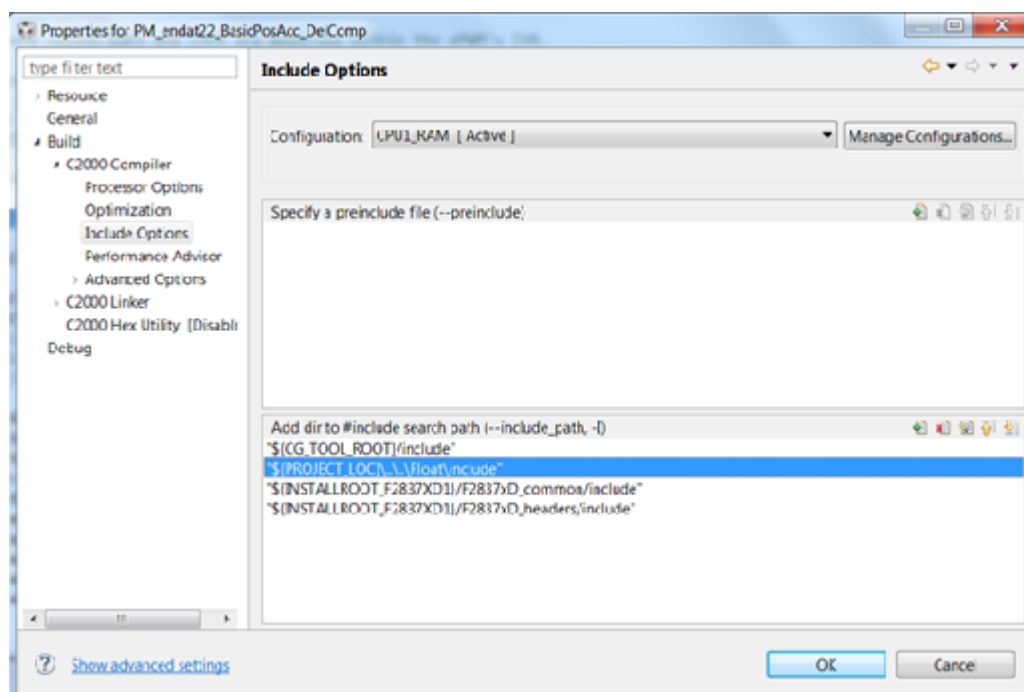

Figure 5. Compiler Options for Projects Using PM PTO Library
2. Navigate to Project Properties → Build → C2000 Compiler → Include Options, then add the PM_pto library path in the include paths (see Figure 5).